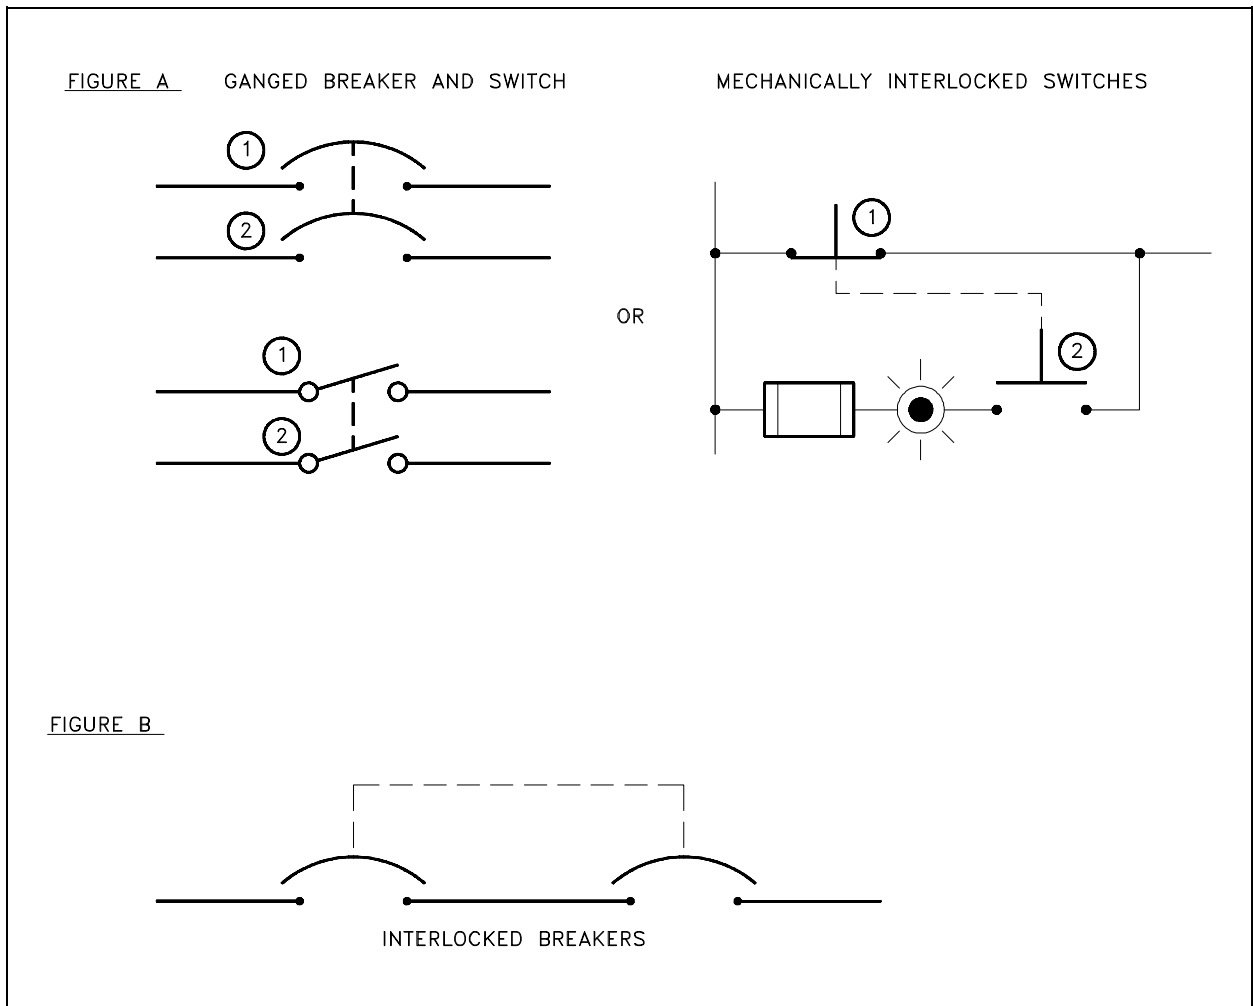

Figure 15 Ganged Switch Symbology
When a switch is used in a circuit, it may contain several sets of contacts or small switches internal to it. The internal switches are shown individually on a schematic. In many cases, the position of one internal switch will effect the position of another. Such switches are called *ganged* switches and are symbolized by connecting them with a dashed line as shown in Figure 15 (A). In that example, closing Switch 1 also closes Switch 2. The dashed line is also used to indicate a mechanical interlock between two circuit components. Figure 15 (B) shows two breakers with an interlock between them.